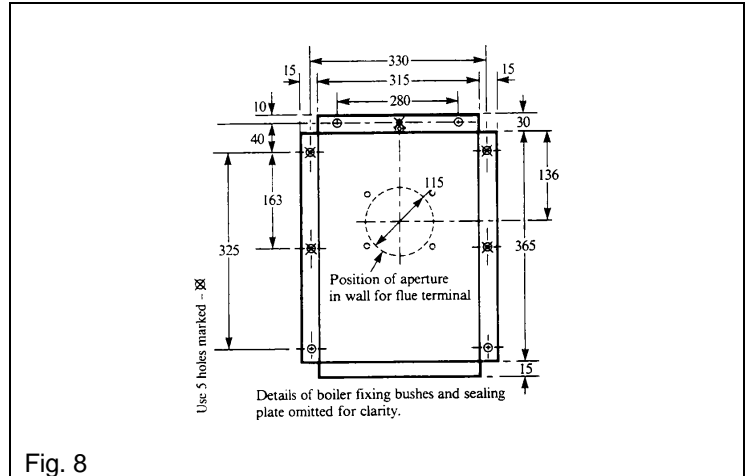

Fig. 8
Refer to Figs. 8 and 9.
3. Again using the mounting plate as a template mark the position of the hole for the flue duct and the five mounting plate fixing holes as shown in Fig. 8.